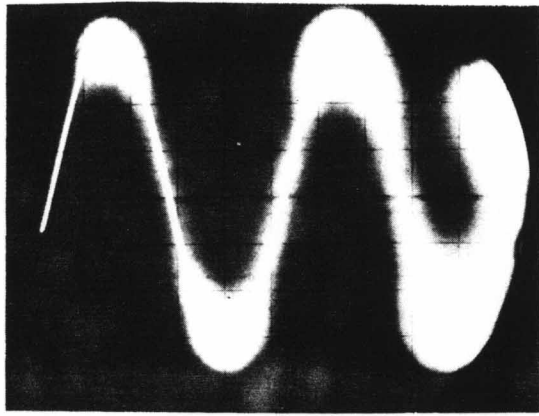

Figure 3-6. Fade positive which occurs after Figure 3-5 display is left in VIEW for 2 to 4 minutes
h. FADE POSITIVE - Display obscured by slow blooming, Figure 3-6.
- ① Adjustment to set trace parallel with horizontal graticule lines.
- ② Momentary switch to return beam to CRT regardless of vertical and horizontal POSITION control settings.
- ③ ON position connects ac power to Oscilloscope and lights POWER indicator.
- ④ Control for focusing beam on CRT.
- ⑤ Control for setting intensity (brightness) of CRT display.
- ⑥ Control for setting trace persistence (afterglow) on CRT.
- ⑦ Presentation Selector, for selecting function of CRT.
- ⑧ Switch for selecting CRT writing rate.
- ⑨ Adjustment to set roundness of CRT beam.
- ⑩ 1 and 10-volt pk-pk, 60 Hz, calibrated square wave outputs.